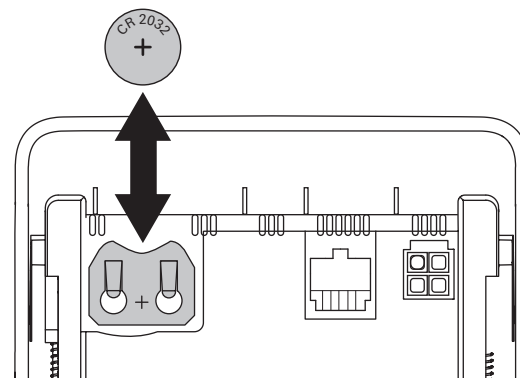

Fig. 9
A buffer battery is installed on the back of the control panel (Fig. 9). The battery is designed to last approximately 8 years.
- ▶ Insert a new battery into the battery holder. In doing so, pay attention to the polarity: Positive pole points to the front or top. See (Fig. 9).